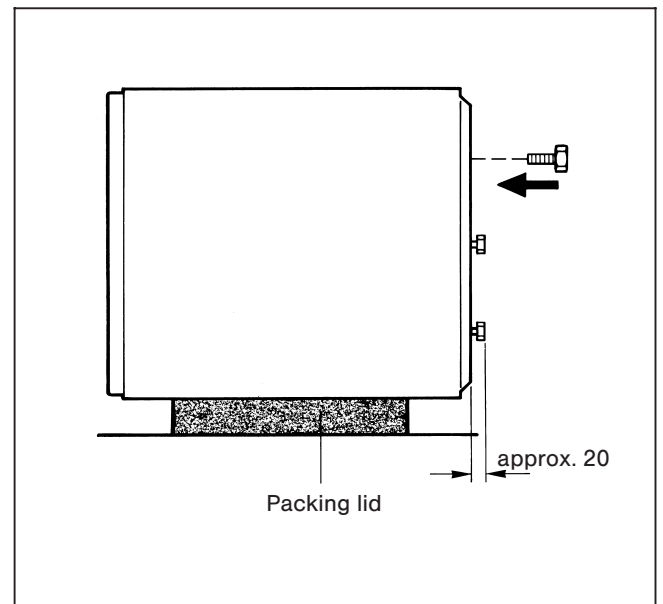

Fig. 3
- Remove the packing lid and lay it on the ground as a support (Fig. 3).
- Tilt the calorifier over the edge of the bottom pallet and lay it on its side on the packing lid (Fig. 3).
- Screw 3 screw-in feet into the bottom of the storage tank and leave them protruding approx. 20 mm (Fig. 3).